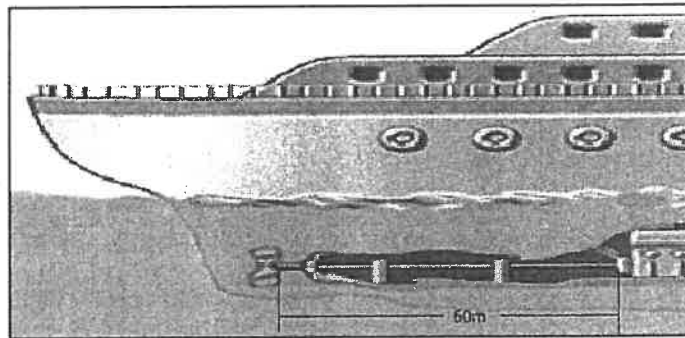

Figure 7
- (a) Figure 7 shows the propeller of a ship connected to an A-36 steel shaft that is 60 m long and has an outer diameter of 340 mm and an inner diameter of 260 mm. If the power output is 4.5 MW when the shaft rotates at 20 rad/s, determine